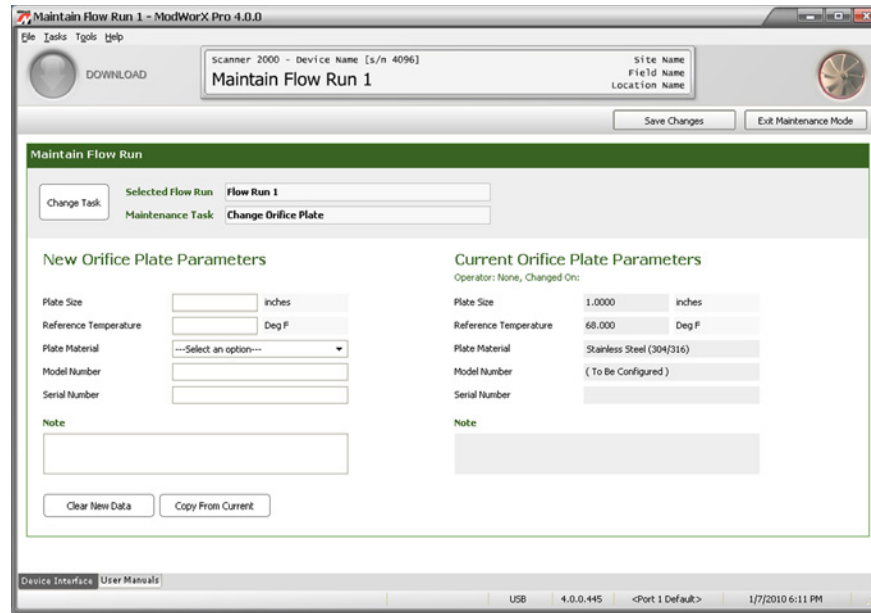

Figure 9.5
- b. Click **OK** to save your selections and return to the Maintain Flow Run screen (Figure 9.5, page 131).